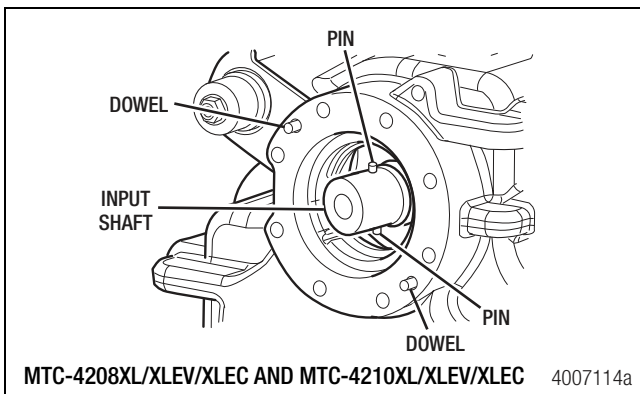

Figure 7.41
1. Verify the drive pins are installed into the input shaft. Figure 7.41.